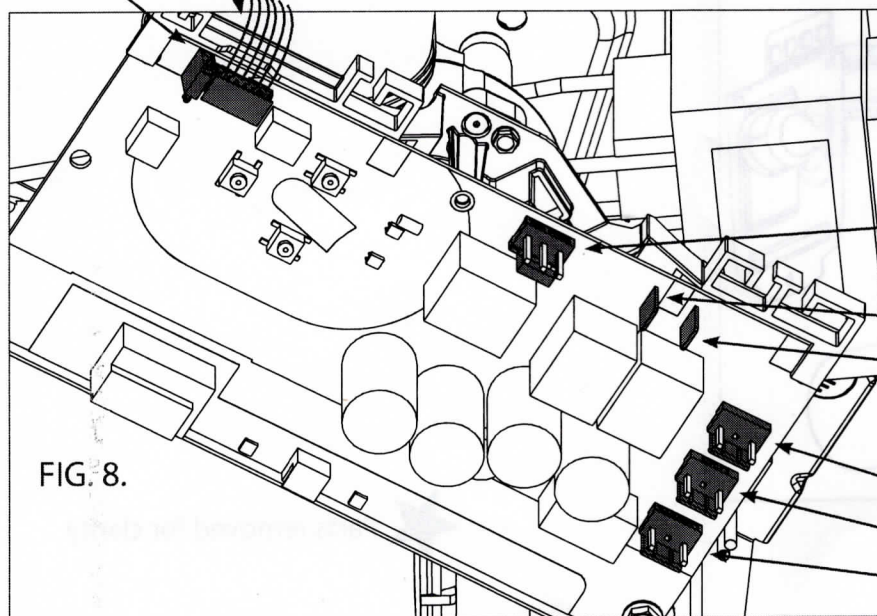

FIG. 8.
10. Unplug these harnesses from control board. FIG. 8.
- Motor Wires (2)
14. Re-Install control board and all harnesses. FIG. 8.